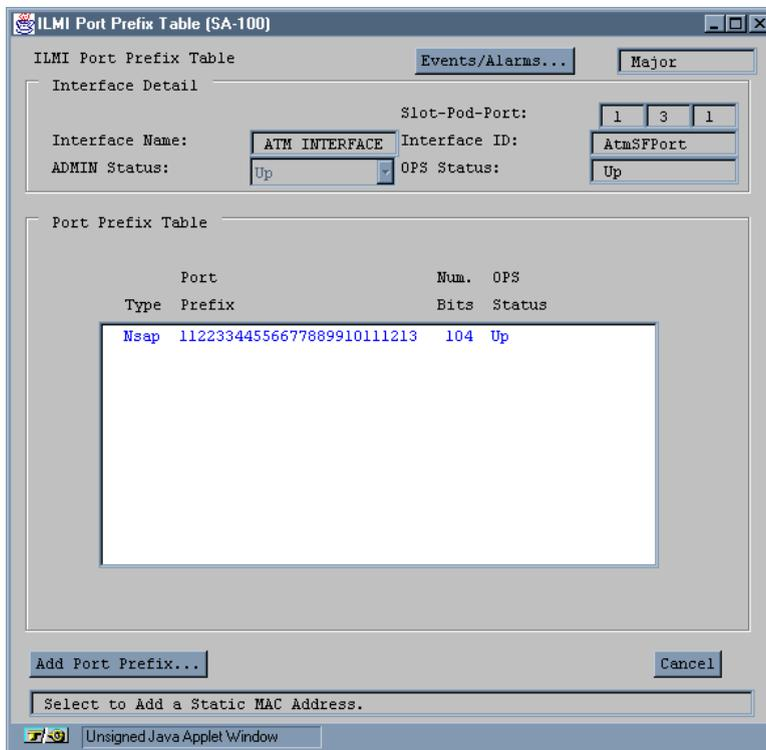

Figure 4-27. ILMI Port Prefix Table
1. Choose the Port Prefix Table button from the Configure ATM Interface window. The ILMI Port Prefix Table window appears (see Figure 4-27).
2. To add a new ILMI Port Prefix, choose the Add Port Prefix button. The Add Port Prefix window appears (see Figure 4-27).